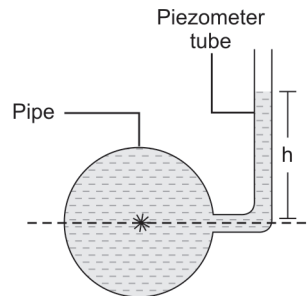

Fig. 1.4: Piezometer
a. Piezometer: It is a tube connected vertically to the liquid system which pressure is to be measured. The liquid rises in the tube up to the point, where the weight of the liquid column in the tube is balanced by the gauge pressure of the system. Pressure shown by the piezometer is the gauge pressure as the tube is open to the atmosphere on the other side as shown in Fig. 1.4.